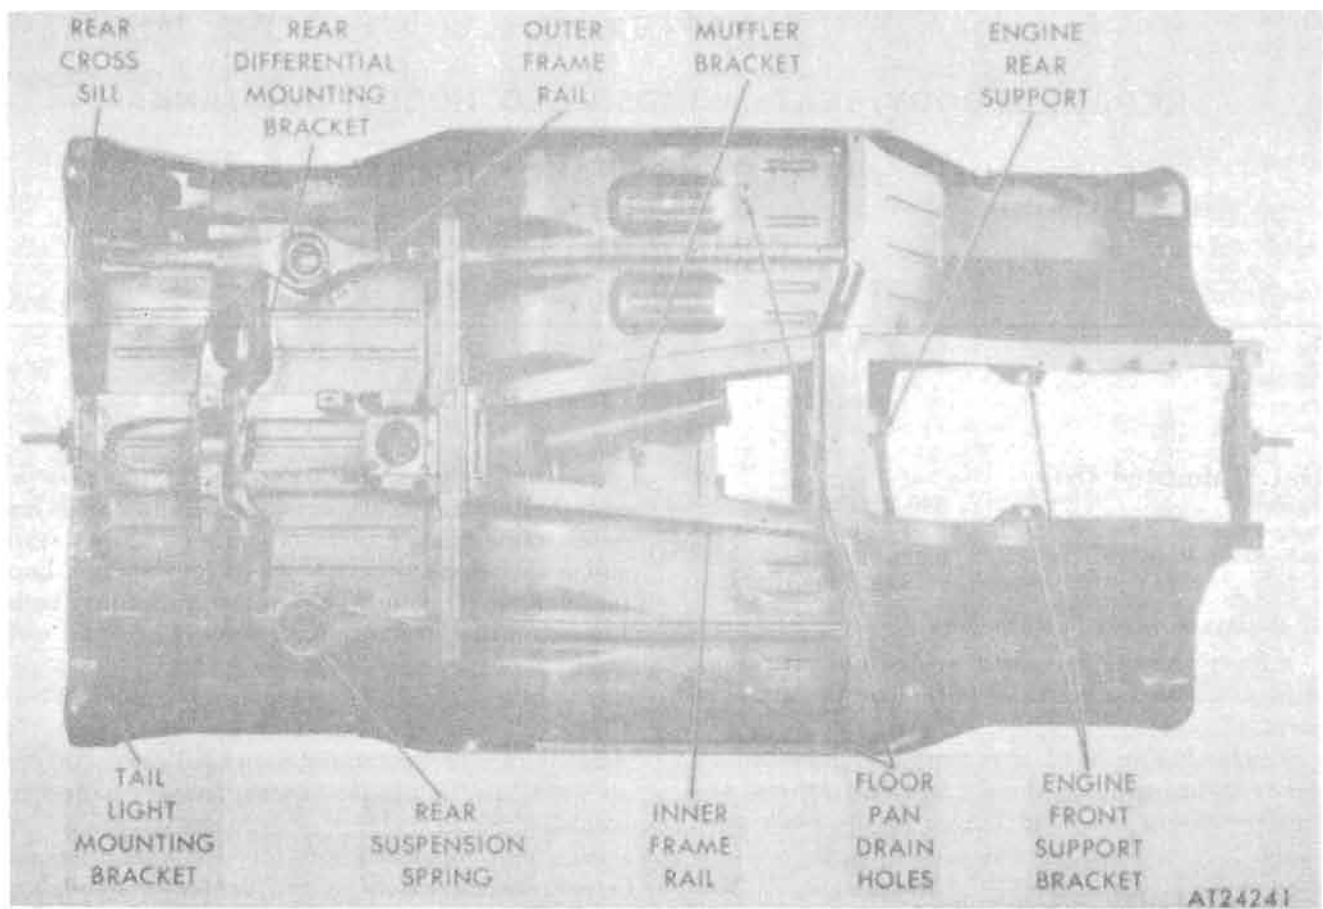

Figure 17-1. Body and frame—bottom view.
b. Under Structure (Fig. 17-1). Inspect all underbody structural parts, especially inner and outer frame rails, crossmembers, coil spring seats, and suspension support brackets for damage. Look for elongated or torn holes for mounting bolts. Inspect entire structure for cracks. Check all weld points.